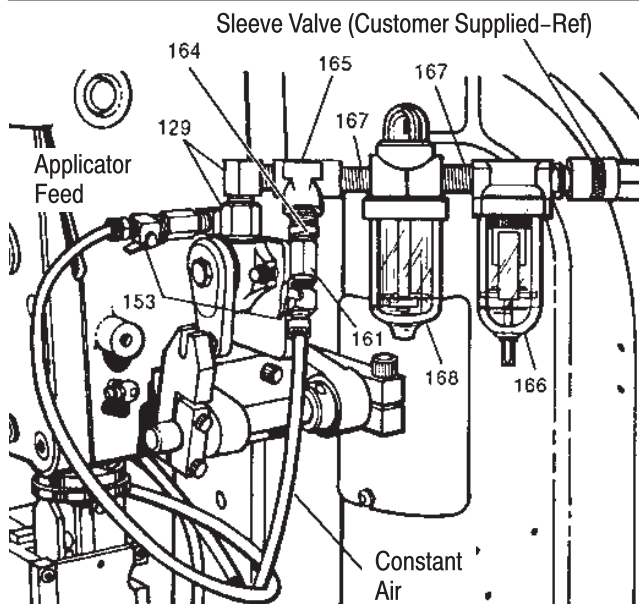

Figure 2
2.1. Air Feed Modification (Figure 2)